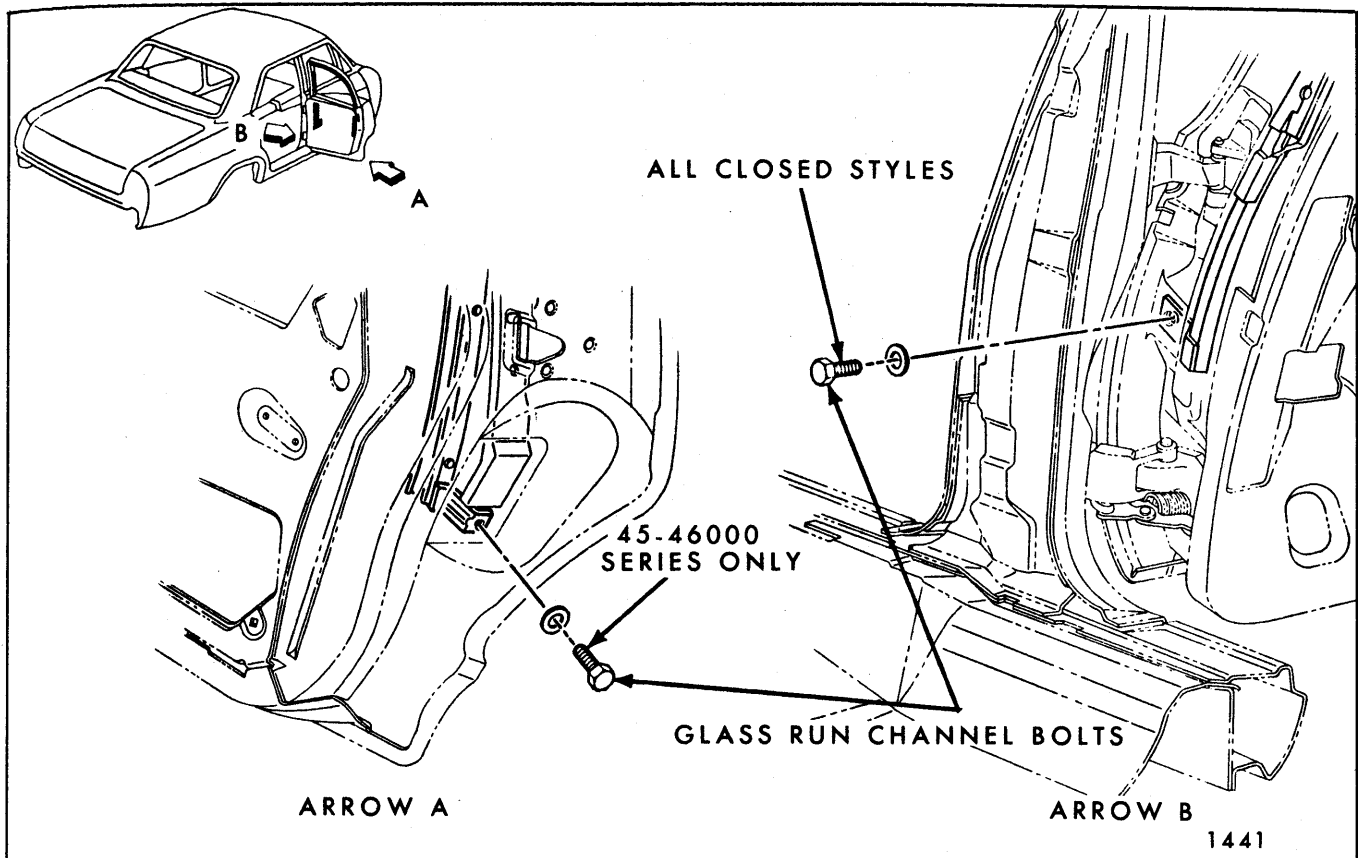

Fig. 7-150—Glass Run Channel Retention "B" Closed Styles
- Remove glass run channel front attaching bolt located on door hinge pillar (arrow "B", Fig. 7-150).
- On 45-46000 Series, remove glass run channel rear lower attaching bolt located on door lock pillar (arrow "A", Fig. 7-150).